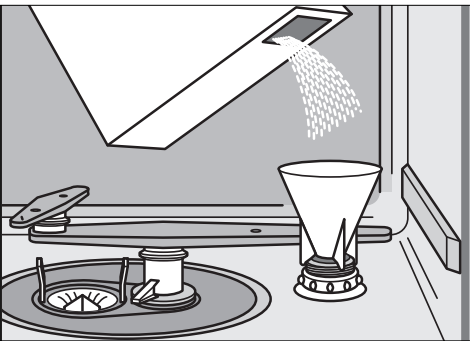

Fig. 3
- Unscrew the cap of the salt container in an anticlockwise direction. Place the supplied funnel on the container (see Fig. 3). Before using the dishwasher for the first time, pour one litre of water into the container and then pour 1.5 kg of salt into the container. Carefully remove any spilt salt and screw the cap on again.